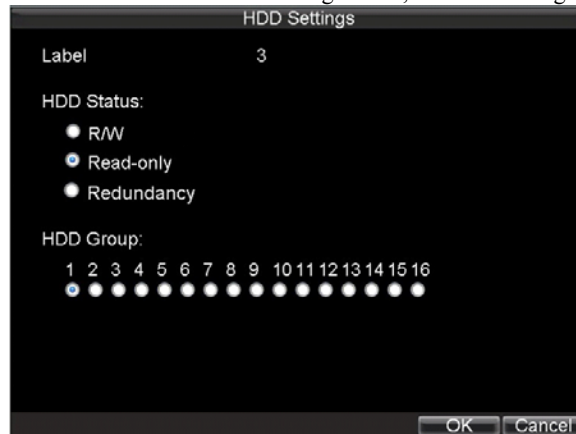

Figure 7. HDD Settings Menu
3. Select the Set button to enter the HDD Settings menu, as shown in Figure 7.